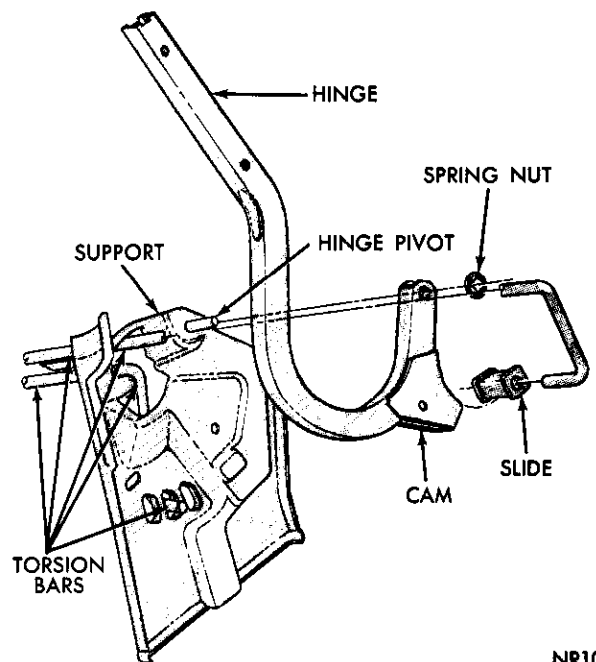

Fig. 80—Deck Lid Hinge and Torsion Bar
The deck lid hinges (Fig. 80) permit only slight adjustment at the hinge attaching points. The hinge brackets are welded in place and are not adjustable.
- (3) Remove spring nut retaining hinge to hinge bracket (Fig. 80) and remove hinge.
- (1) Remove torsion bar (under spring load) from adjustable slot (Fig. 80).
- (2) Unwind torsion bar and remove from support bracket.
- (3) Push torsion bar out of roller in hinge arm and remove from hinge support.